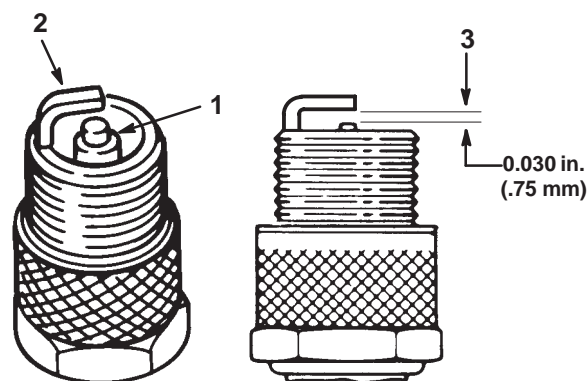

Figure 27
2. Look at the center of the spark plug(s) (Fig. 27). If you see light brown or gray on the insulator, the engine is operating properly. A black coating on the insulator usually means the air cleaner is dirty.
3. Check the gap between the center and side electrodes (Fig. 27). Bend the side electrode (Fig. 27) if the gap is not correct.